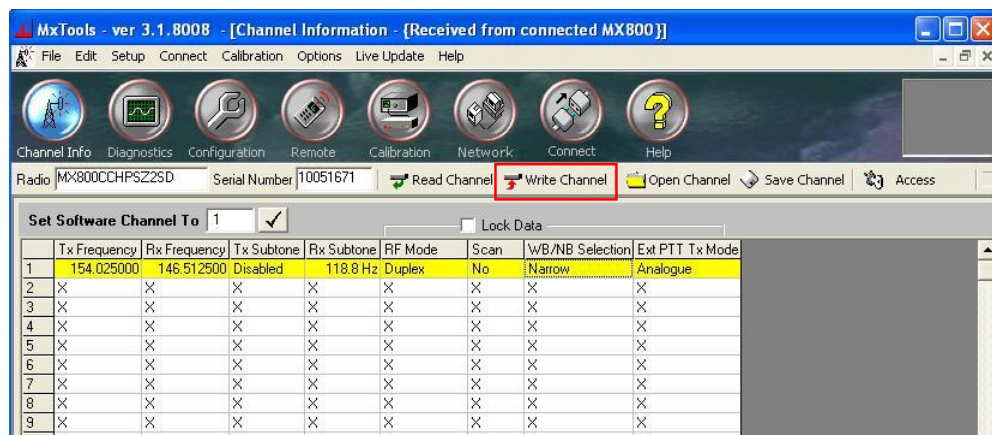

Figure 12. MXTools – Write Channel button.
- 14.7. On the MXTools main window, select the “Write Channel” button to store the settings back to the SB2000 base station (see **Figure 12** below).